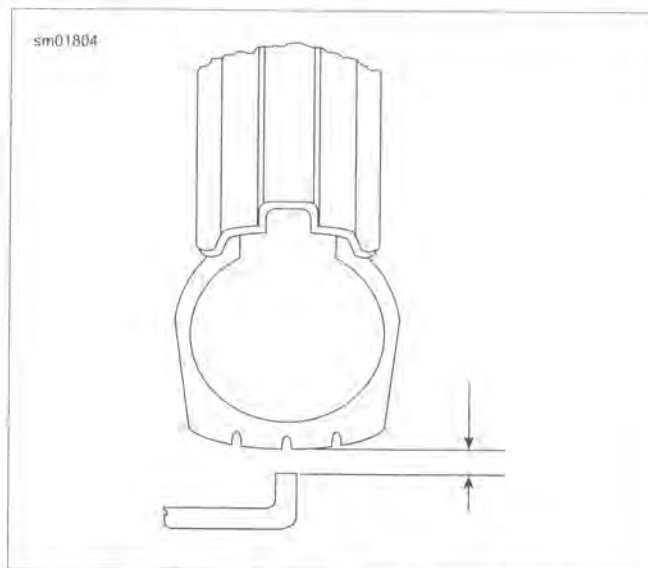

Figure 2-85. Checking Tire Radial Runout
2. See Figure 2-85. Spin the wheel on the axle and measure radial runout at the tread centerline.